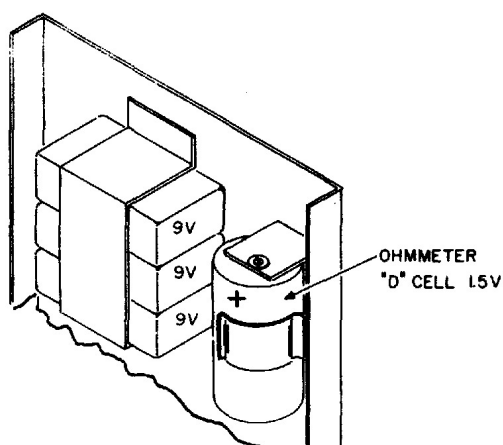

Figure 10. Location of Batteries
2. The 1-1/2-volt ohmmeter battery is mounted at the right side of the rear subchassis in its own holder. The battery should be replaced with a comparable cell, observing the polarity (positive side up). See figure 10.